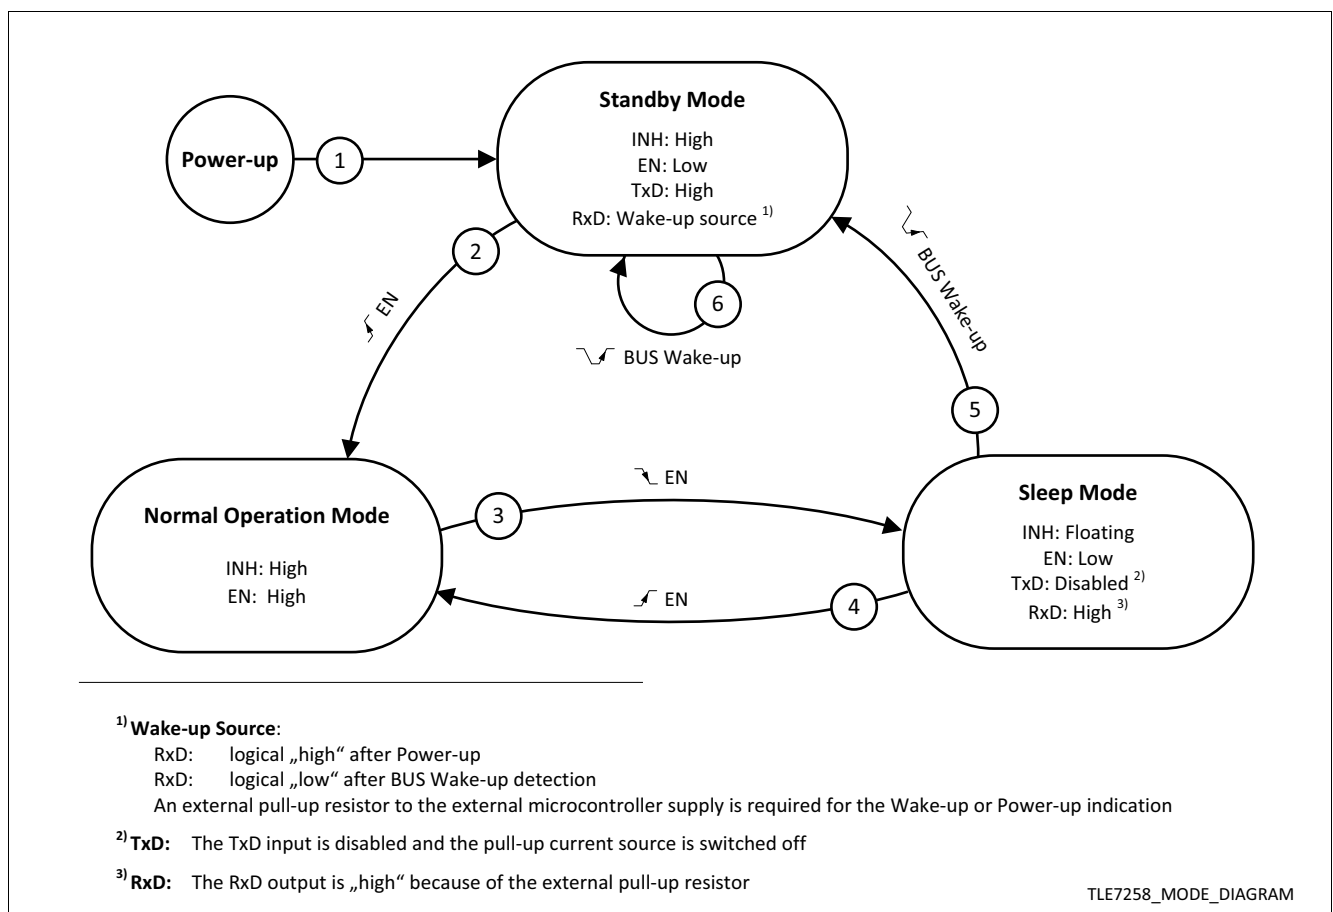
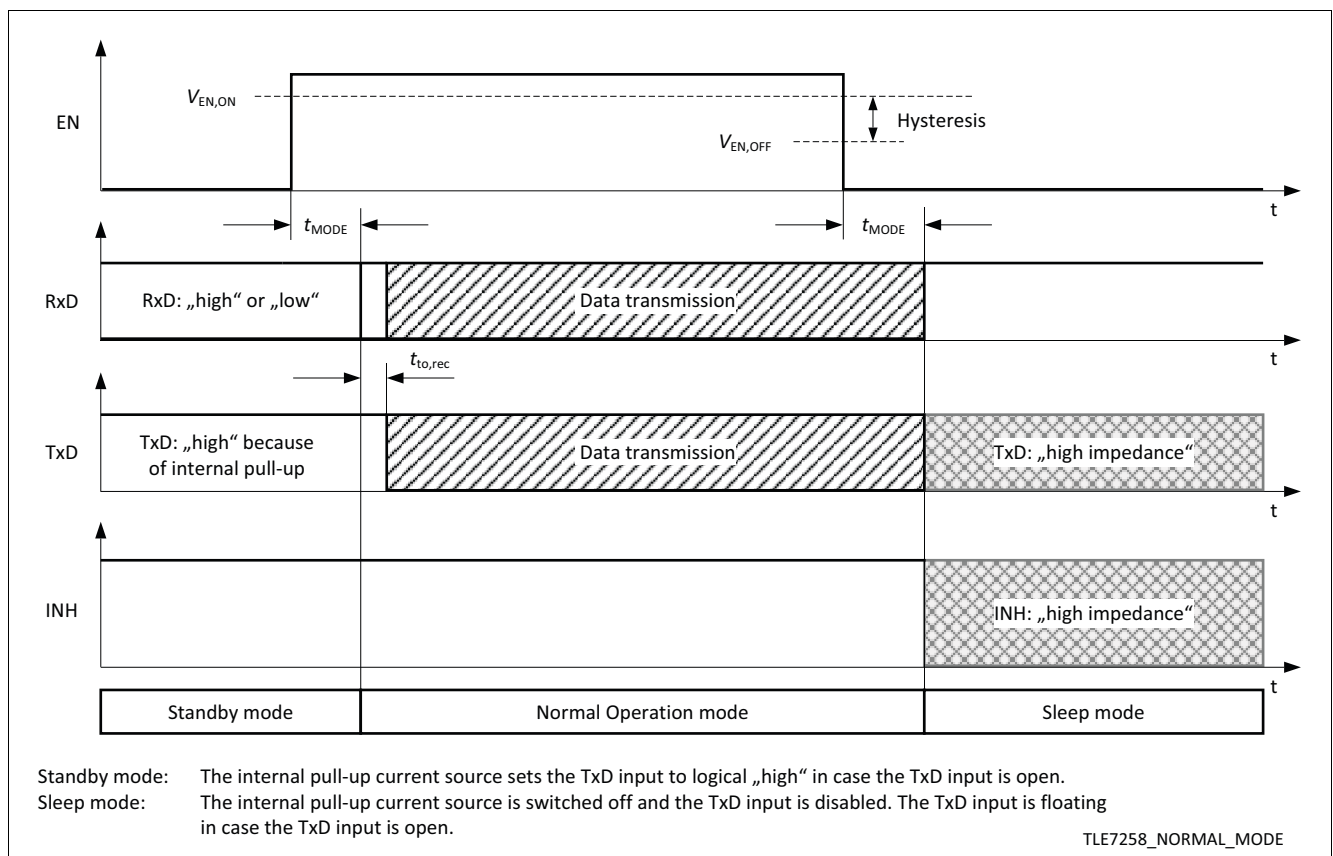
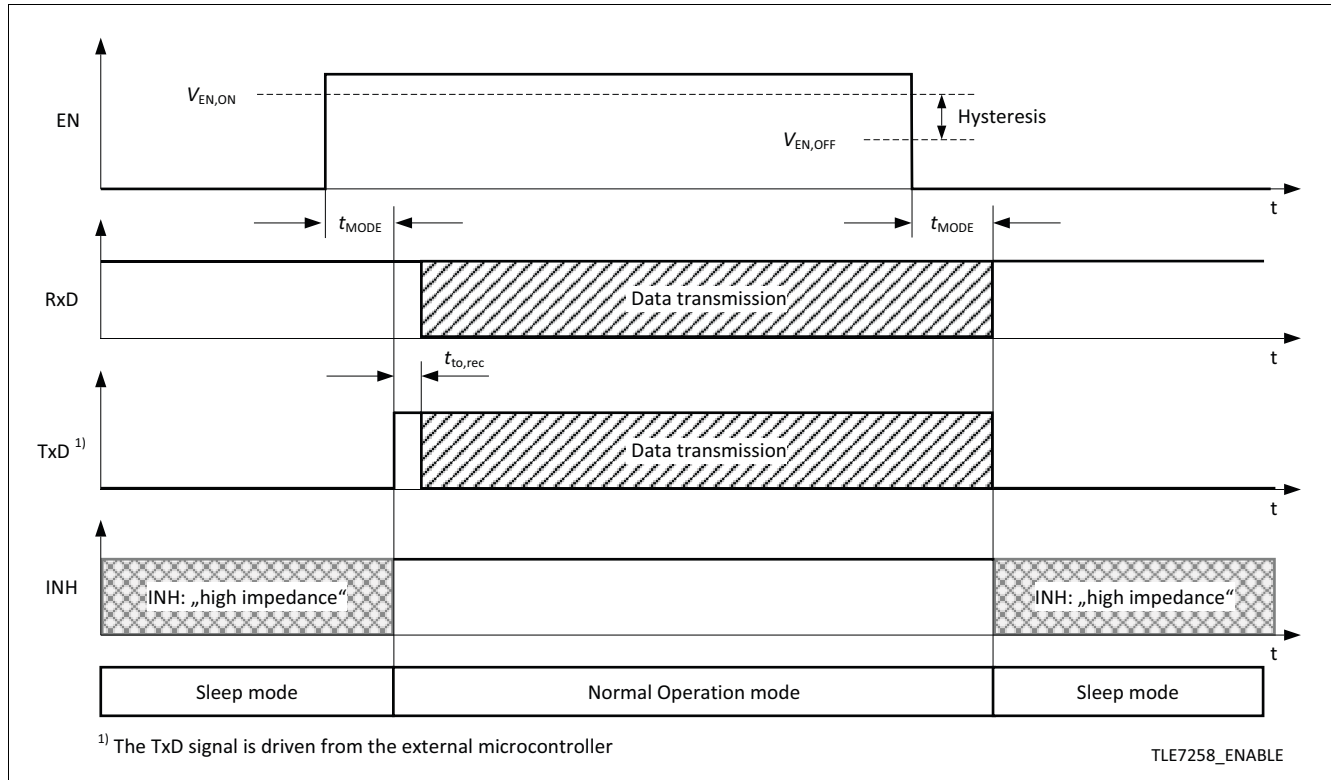

Figure 4 Operation mode state diagram
Figure 5 Entering normal operation mode from standby mode
Figure 9 Entering normal operation mode from sleep mode
The TLE7258 has 3 major operation modes (see Figure 4):
Normal operation mode can be entered from either sleep mode (see Figure 9) or from standby mode (see Figure 5), by setting the EN input to logical "high". From normal operation mode the TLE7258 can only enter sleep mode, it is not possible to enter standby mode directly (see Figure 4).
After a mode change to normal operation the TLE7258 requires a logical “high” signal for the time $t_{to,rec}$ on the TxD input before releasing the data communication (see Figure 5). The transmitter remains deactivated as long as the signal on the TxD input remains logical “low”, preventing possible bus communication disturbance.
- The RxD output indicates either a wake-up event or a power-up event (see Figure 4 and Table 1).
- The EN input is active. A “high” signal on the EN input triggers a transition to normal operation mode (see Figure 5).
To switch the TLE7258 from normal operation mode to sleep mode, the EN input has to be set to “low”. Conversely a logical “high” signal on the EN input sets the device directly back to normal operation mode (see Figure 4). The TLE7258 can only enter sleep mode from normal operation mode.
The EN input is used for operation mode control of the TLE7258. By setting the EN input logical “high” for the time t_{MODE} while being sleep or standby mode, a transition to normal operation mode will be triggered (see Figure 9). The EN input has an integrated pull-down resistor to ensure the device remains in sleep or standby mode even if the EN pin is left open. The EN input has an integrated hysteresis.
A signal transition from logical “high” to “low” on the EN input changes the operation mode from normal operation mode to sleep mode (see Figure 5).